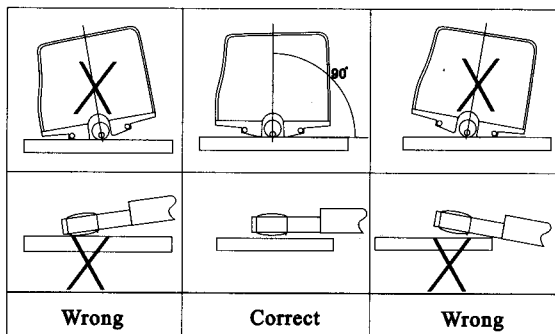
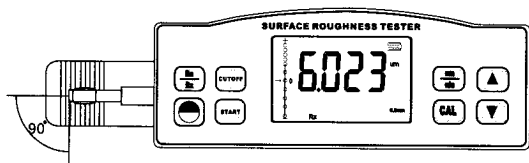

Fig. 4-1
Fig.4-2
- G. Refer to Figure 4-1 and Figure 4-2 to place the instrument correctly, stably and reliably on the surface to be measured.
- H. Refer to Figure 4-2, the sliding trail of the sensor must be vertical to the direction of process line of the measured surface.